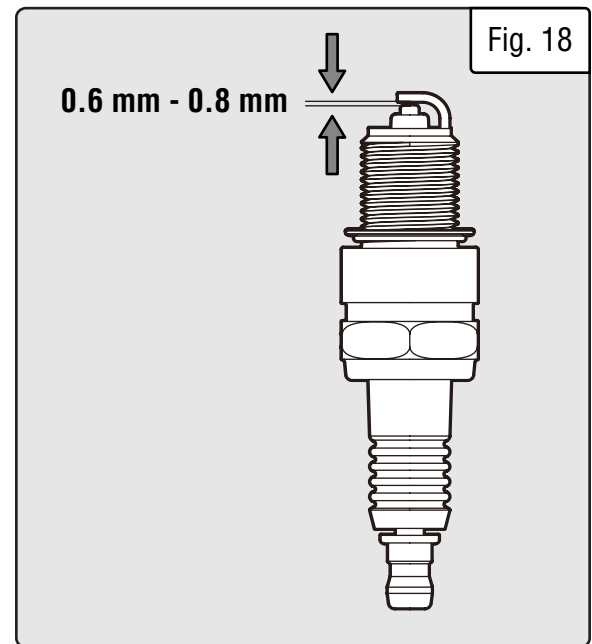

Fig. 18
6. Measure the plug gap with a wire gauge (Fig. 18). The gap should be 0.024 - 0.031 in. (0.6 - 0.8mm). Carefully adjust the gap if necessary.